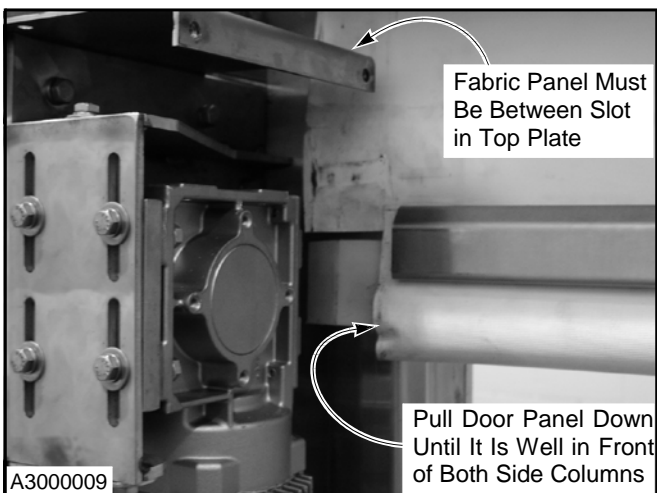

Figure 24
3. Disengage the brake release by pulling the brake release lever on the side column. Keep tension on the release lever while pulling down on the bottom bar until the door is approximately 18 in. below the top of the door opening. The fabric panel must be between the slot in each top plate and in front of both side columns. (See Figure 24.)